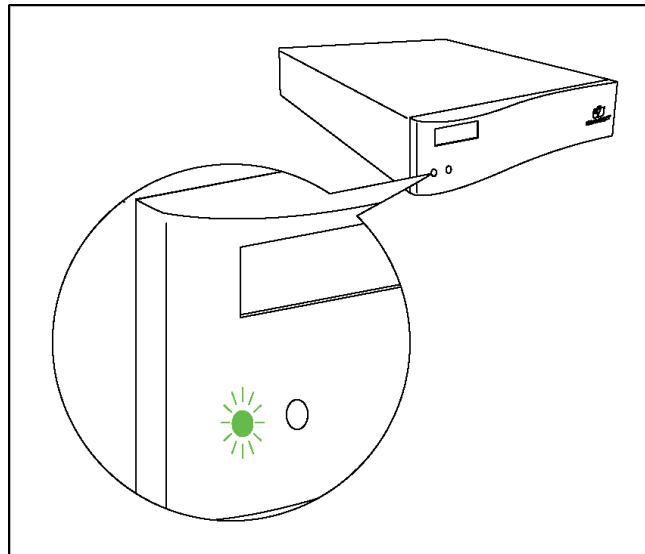

Figure B-1.11. ‘Ready to Print’ status light condition.
- 1) Check status lights on the controller front panel. After performing a power-on self check, the controller should show the status light condition for “Ready to print”, as shown in Figure B-1.11. (See Appendix B, *Controller Status Lights*, in the Controller User’s Guide, for a complete listing as to what conditions are indicated by the status lights, and how to interpret them.)